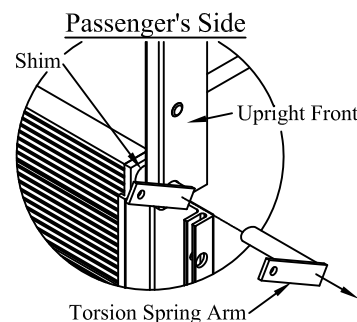

Figure 6: Passenger side torsion spring arm.
11. **Remove** the passenger side torsion spring arm (Figure 6).